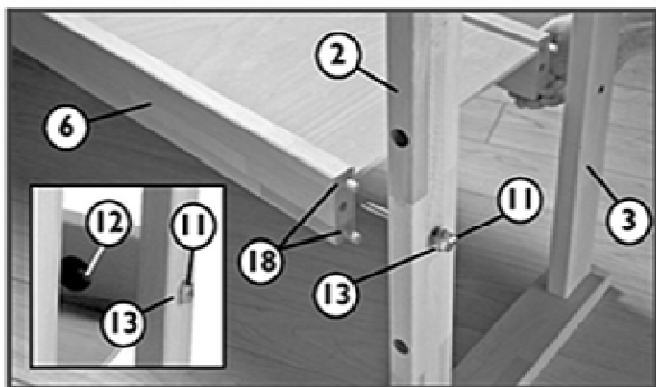

Fig. 3
3. Use two Dowels (18), and M-12x100 Hex Bolt (11), a Washer (13) and an M-12 Nut (12) to attach each Middle Stretcher to the leg assembly (fig3.). Make sure the bench dogs holes in the legs are facing forward. Repeat this process for the other leg assembly.